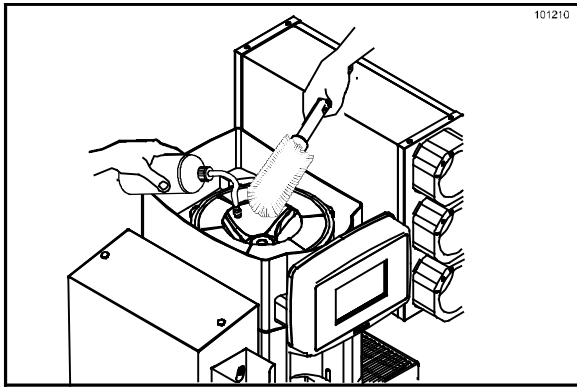

Figure 78
23. Using the squeeze bottle filled with cleaning solution, flush the ice shaver assembly while brushing with the large white ice hopper brush. (See Figure 78.)